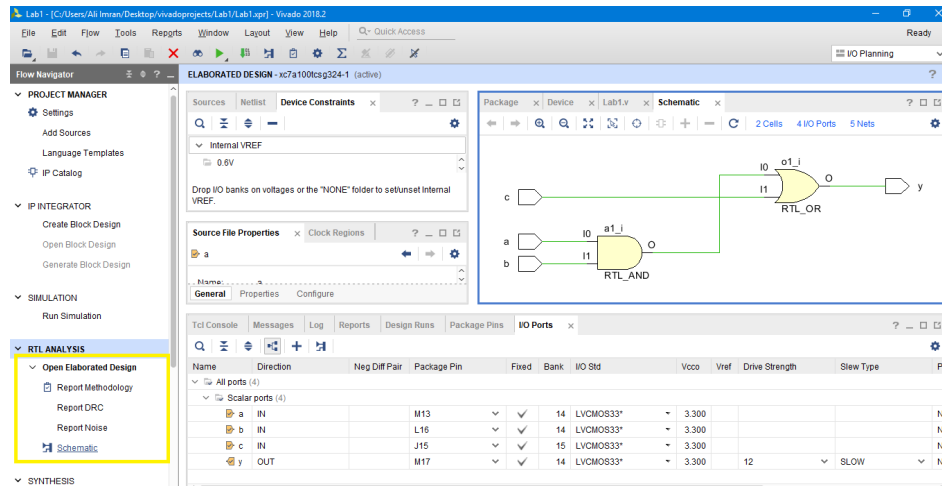

Fig. 3.6: Vivado Gate Level Schematic
4. Click on *Schematic* to check your gate level design (Fig. 3.6).